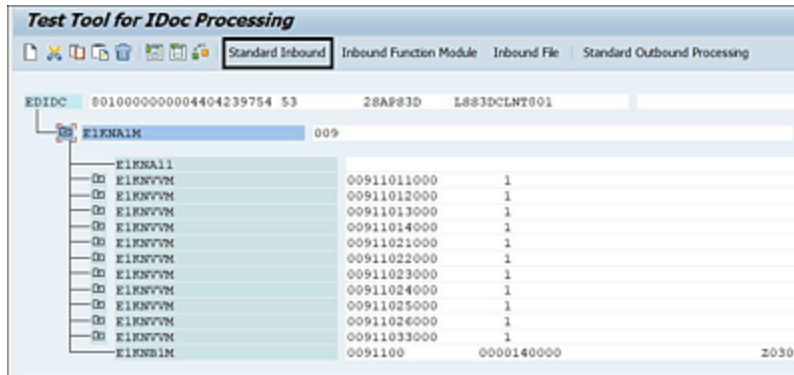

Figure 9.14 Posting an IDoc via Transaction WE19: IDoc Test Transaction
2. Once the IDoc data is copied, click on the **Standard Inbound** button, and then confirm the partner profile details in the subsequent popup if the status appears green. This will create a new inbound test IDoc and post it (if the partner profile is set with the **Post Immediately** setting). Figure 9.14 shows an example of IDoc posting via Transaction WE19. As soon as you click on the **Standard Inbound** button, a popup screen